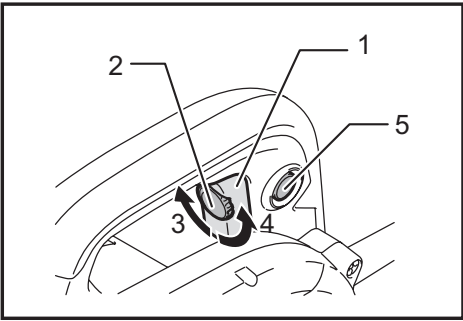

Fig.1
- **Fig.1:** 1. Switch trigger 2. Speed control screw 3. Higher 4. Lower 5. Lock button